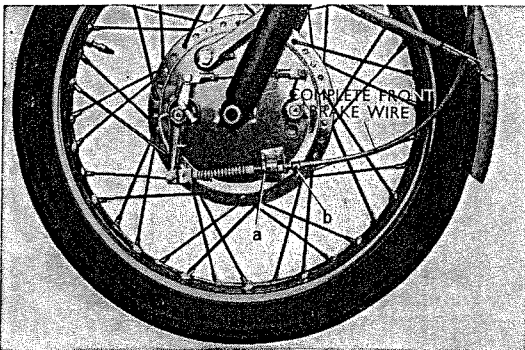

Fig. 4.79 Front brake wire adjuster
- Connect the front brake cable to the brake arm and adjust the play. For adjustment, loosen the nut (a); if the adjuster (b) is turned clockwise, the play increases and vice versa. The designated play ranges from 30 (1.17") to 40 mm (1.56"). (Refer to Fig. 4.79 and 4.80)